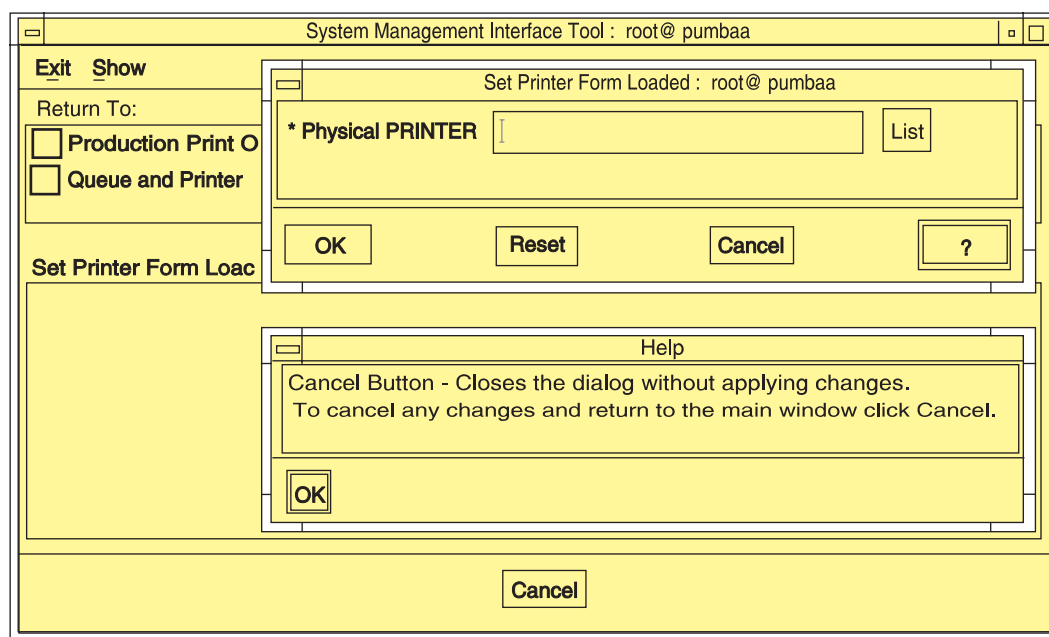

Figure 45. Help for SMIT Window Fields and Buttons
1. Select the button labeled with a question mark at the bottom right of the window. A **Help** window displays beneath the SMIT window. Figure 45 shows the results of selecting the question mark button.